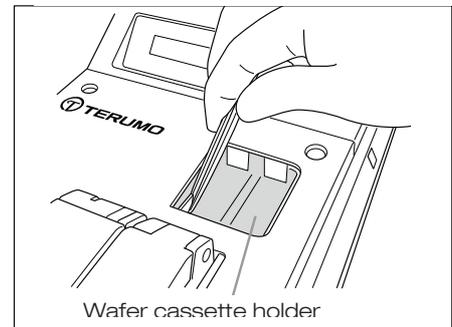

Figure 29
8. Visually check whether a wafer still remains in the wafer cassette holder and confirm that the wafer in the wafer cassette is not damaged. In the case of a wafer remaining in the wafer cassette holder, remove it using tweezers or needle nose pliers (See Figure 29).